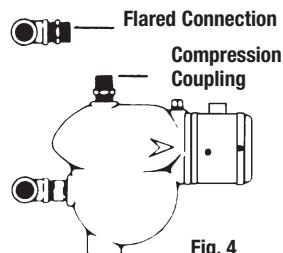

Fig. 4
4. Screw the nipple which is in the tee carrying the tubing connector into the upper gauge glass tipping and pull up tight. Install compression coupling in top float chamber tapping. Fig. 4.